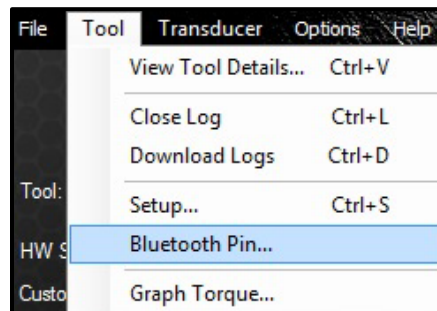

Figure 5.8-1: Bluetooth Pin Button
- From the Tool menu, select **"Bluetooth Pin"** (Figure 5.8-1).